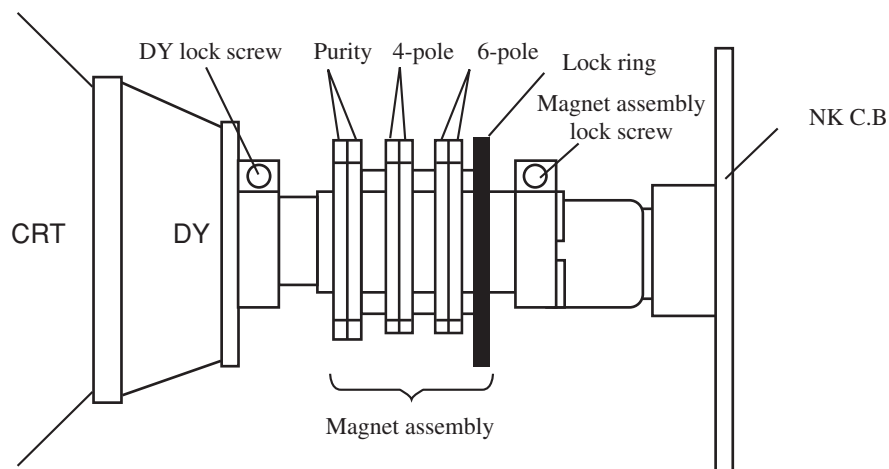

Fig 1-4
- (4) The composition of each magnet is as shown in Fig. 1-4.
Be careful not to loose the lock ring too much. If the magnet assembly has become shifted during adjustments, secure it to the position in Fig. 1-4.